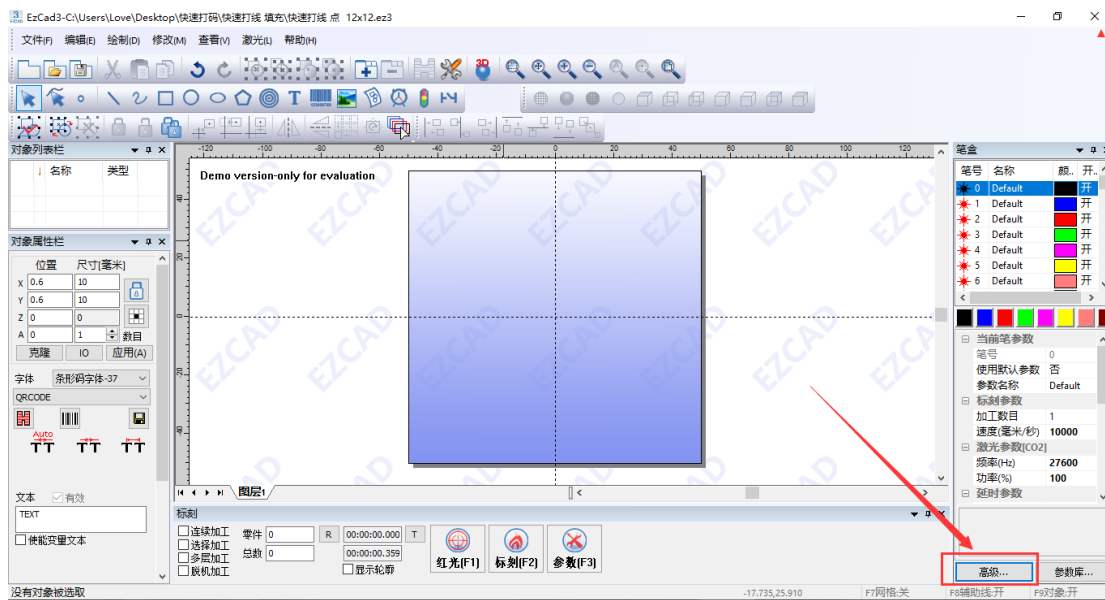

Figure 6.2 Advanced Options
2. Optimize the parameter display settings, as shown in Figure 6.2.